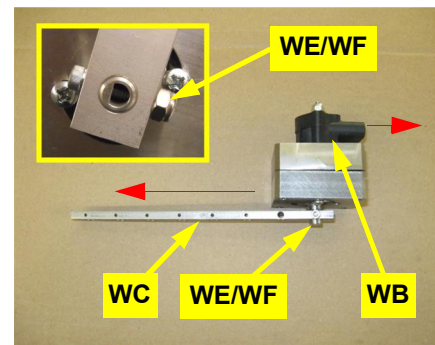

Figure 1c: Attached WAS arm
- c. Attach WAS arm **WC** to the WAS assembly using the provided hardware **WE** (nut) and **WF** (screw). Mount **WC** in the opposite direction to **WB**'s wire connector (Figure 1c).